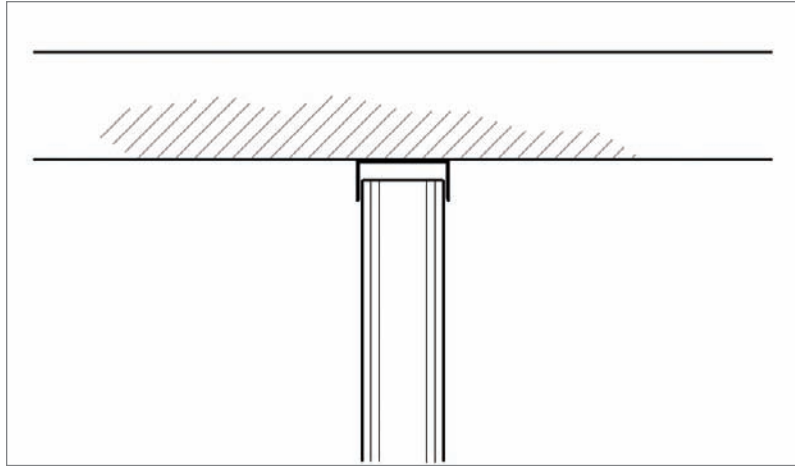

FIGURE 12.71 The detail with the hatching included
9. Click Finish Edit Mode on the Mode panel. Your pattern should look like Figure 12.71.